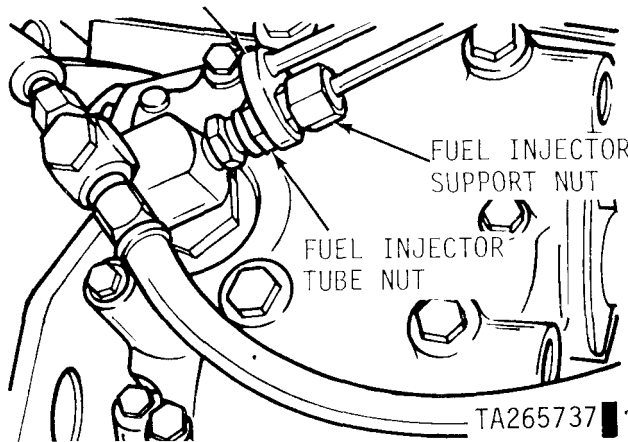

Figure 2-38. Disconnecting or connecting fuel injector tube nuts.
(11) Using crowfoot adapter, loosen 12 fuel injector support nuts (fig. 2-38) and disconnect 12 fuel injector tube nuts from fuel injector nozzles.